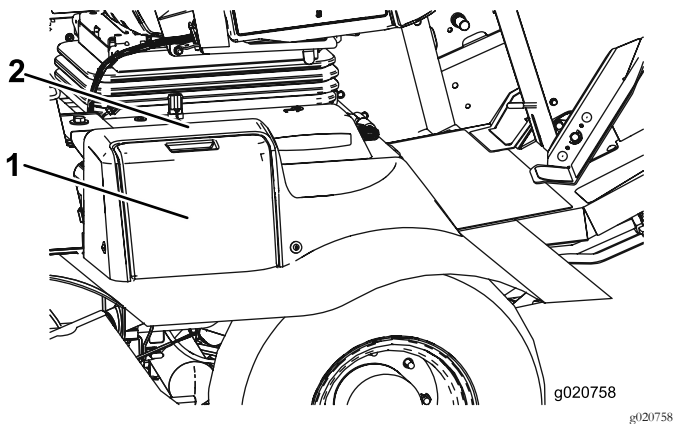

Figure 54
1. Open the battery cover (Figure 54) on the side of the shroud.
Note: Press down on the flat surface above the battery cover to ease cover removal (Figure 54).